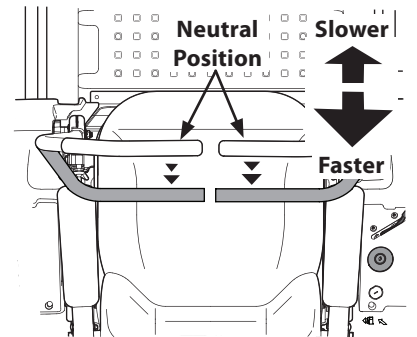

Figure 28
- Slowly and evenly move both drive control levers rearward. The mower will start to move in the reverse direction. See Figure 28.